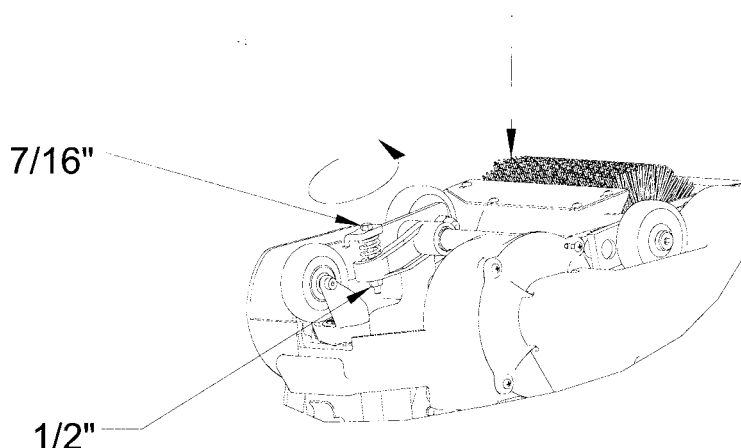

Figure 6
3. Loosen the leveling screw (relax the leveling spring) to sand heavier on the side opposite the drive belts as shown in figure 6.